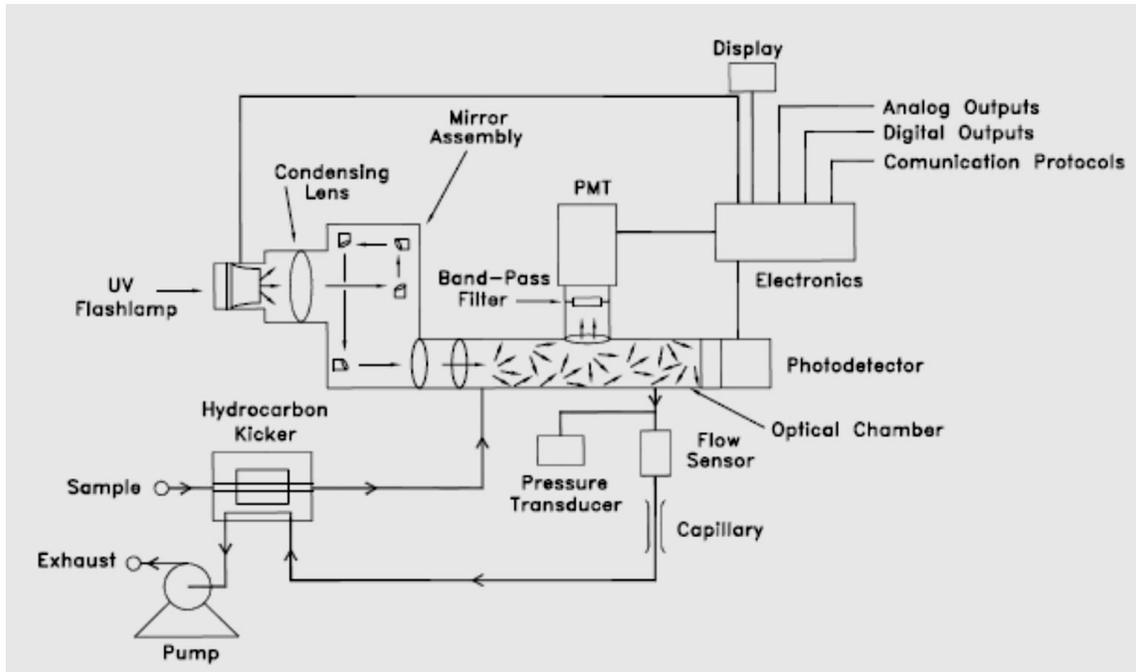

Figure 3: THERMO 43i Schematic
2. Connect a sample line and external filter assembly to the **SAMPLE IN** bulkhead on the rear panel of the analyzer. (Figures 3 and 4)